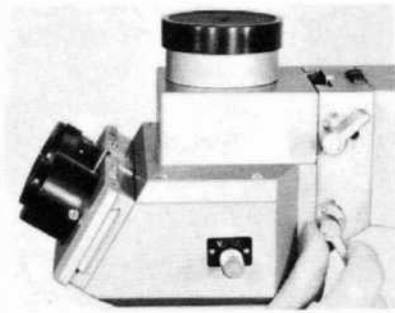

Fig. 9
- 4) Lock the tube with the lower clamping lever. (Fig. 9)